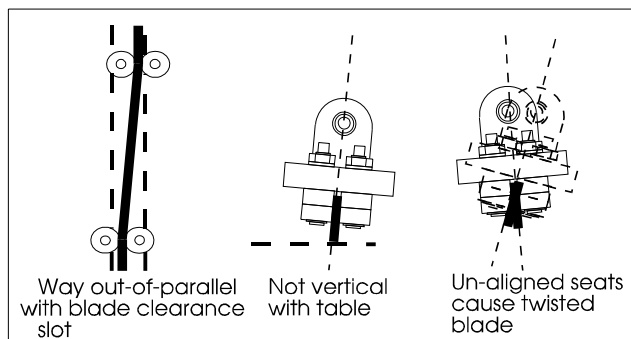

Figure 10: Blade alignment fault conditions
The blade can suffer from several out-of-adjustment conditions. These conditions are shown in *Figure 10*.
1. The blade must run parallel to the saw blade clearance slot. (See *Figure 10*.)
3. The blade must be vertical and square with respect to the saw table and must not be twisted. (See *Figure 10*.)